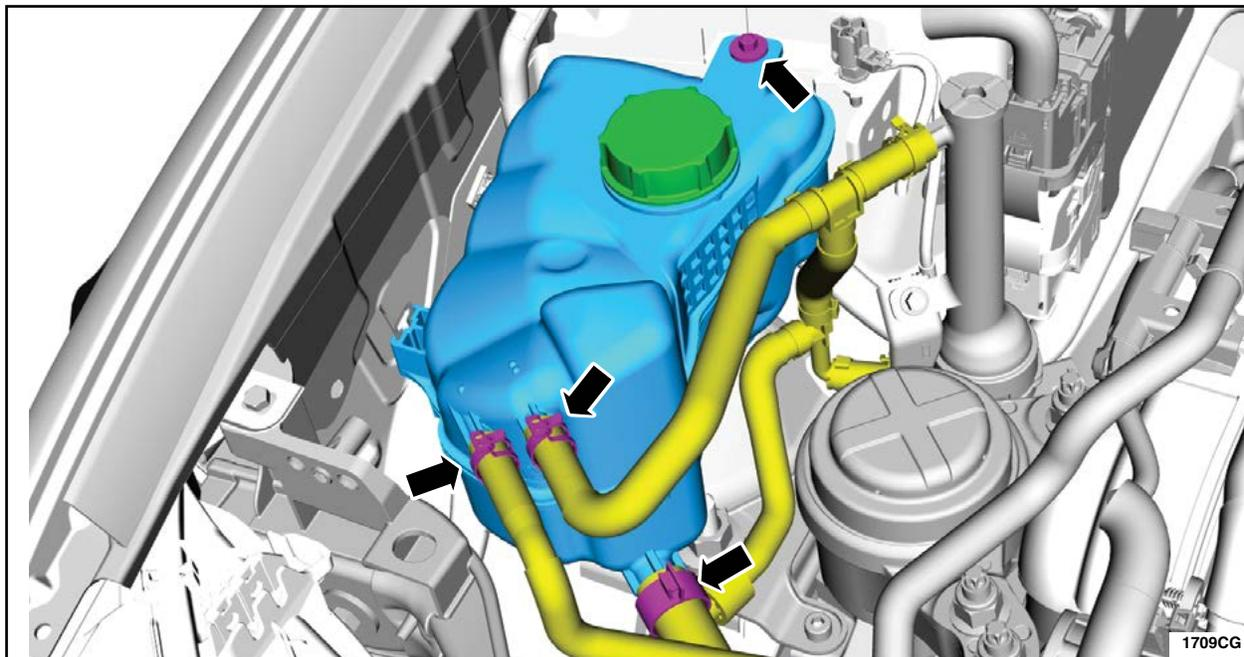

**FIGURE J5**
5. Connect coolant stand-pipe wiring harness to the coolant stand-pipe. See Figure J5.